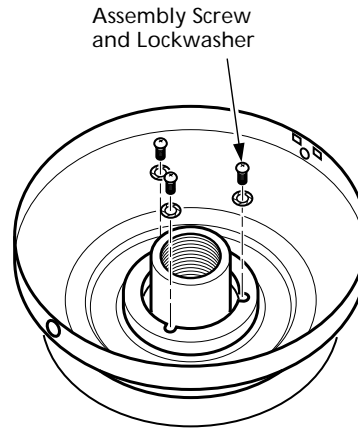

Figure 4d - Attaching Canopy to Fan Assembly
4. Attach the canopy tightly to the fan assembly with three #8-32 assembly screws and lockwashers as shown in Figure 4d.